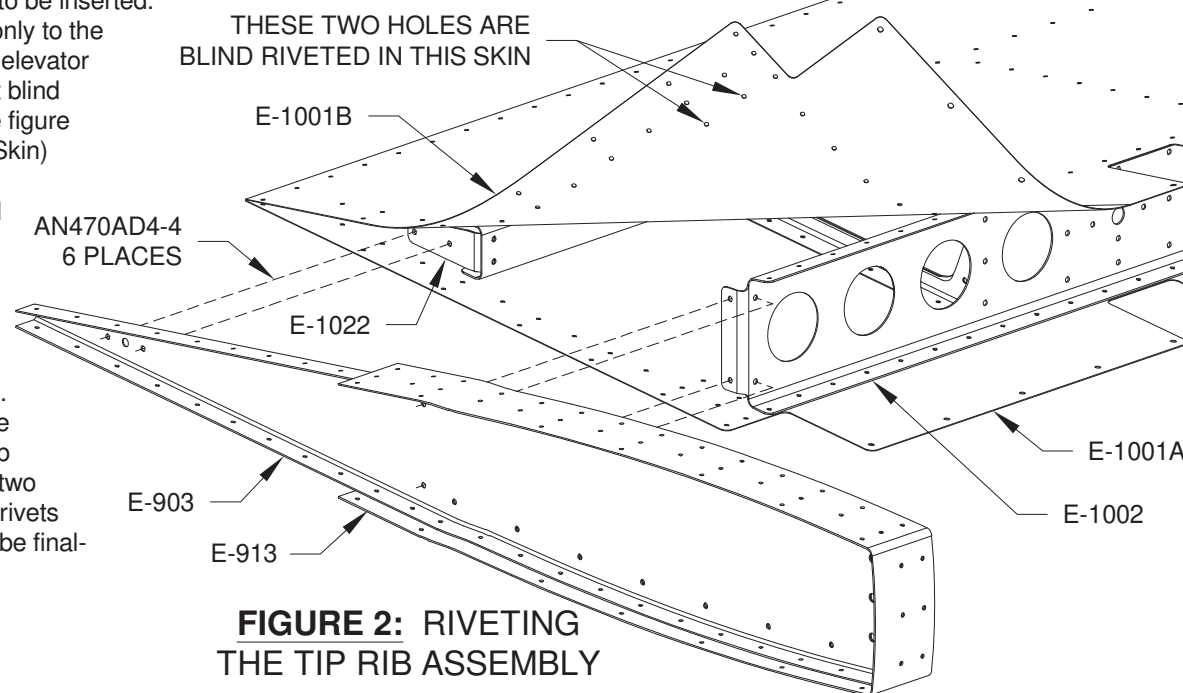

FIGURE 2: RIVETING THE TIP RIB ASSEMBLY
Step 4: The elevator is shown upside down in Figure 2. Cleco the tip rib assembly to the elevator, then rivet the assembly to the E-1022 Shear Clip using the rivets called out in the figure. Access to the clip can be gained from between the skins at the trailing edge.